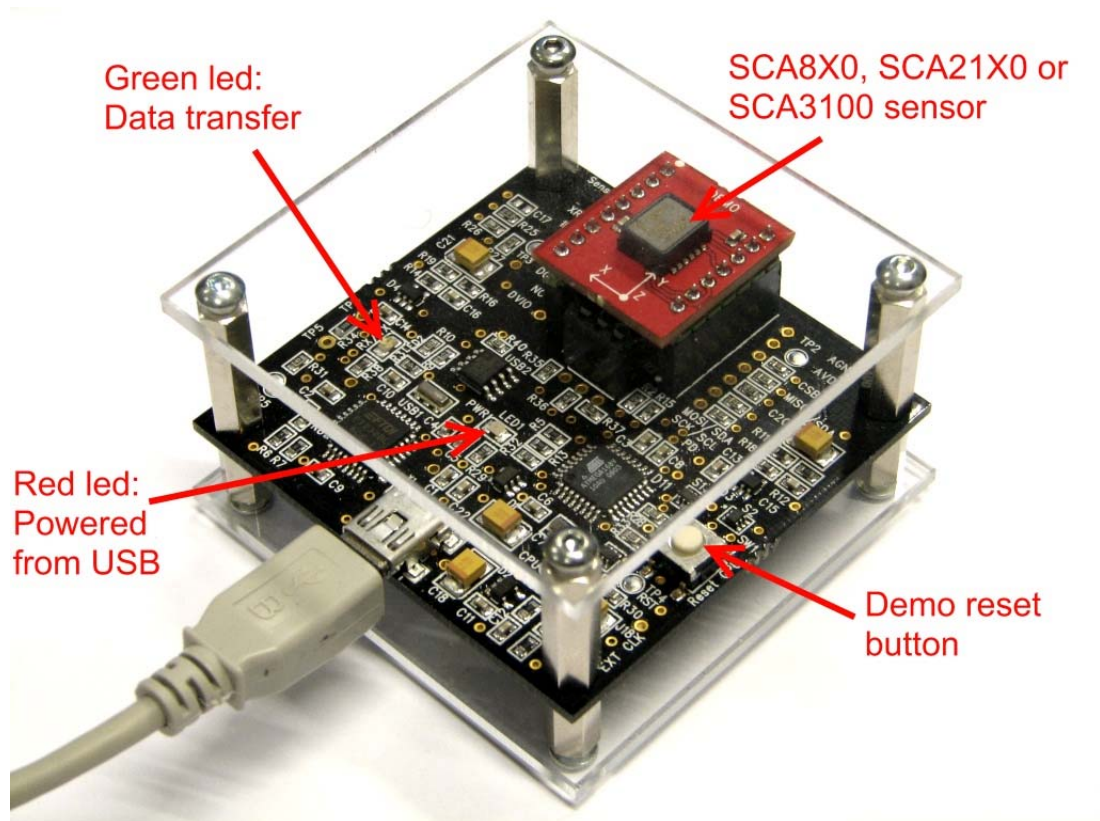

Figure 1. SCA8X0-21X0-31X0 demo USB interface board and SCA8X0-21X0-31X0 PWB.
- SCA8x0, SCA21x0 or SCA31x0 sensor soldered on chip carrier PWB (see figure 1 on the next page)
- USB interface card (see figure 1 on the next page)
The SCA8X0-21X0-31X0 DEMO KIT USB interface board (black PCB) and SCA8X0-21X0-31X0 PWB (red PWB) are shown in figure 1. The USB interface card converts the USB interface to SPI interface of the accelerometer. SCA8x0, SCA21x0 or SCA31x0 sensor is soldered on the PWB which is connected to interface board.
μ C can be reinitialized by exiting from the GUI and then pressing the reset button (figure 1) on USB interface board.